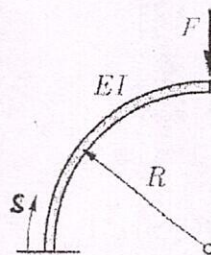

Figure 5
Q.6 A circular arch is subjected to a force  $F$  as shown Figure 5. Determine the displacement of the point of application of the force due to bending.